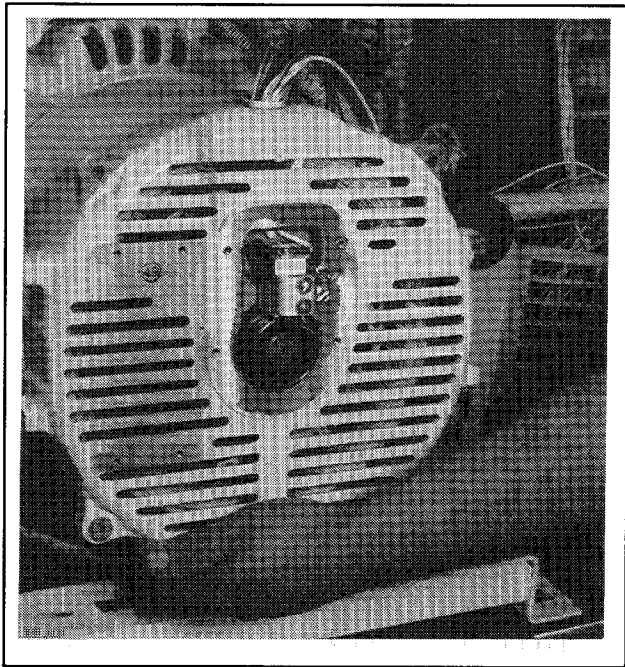

**Figure 10-5. Junction Box Removal**
9. **CZ/12-lead generators:** Remove four bolts securing junction box to adapter. It will be necessary to remove voltage regulator and regulator mounting plate for access to junction box mounting bolts. After bolts are removed, controller and junction box can be swung to the side for remaining steps. See Figure 10-5. Remove overbolts securing end bracket to adapter.